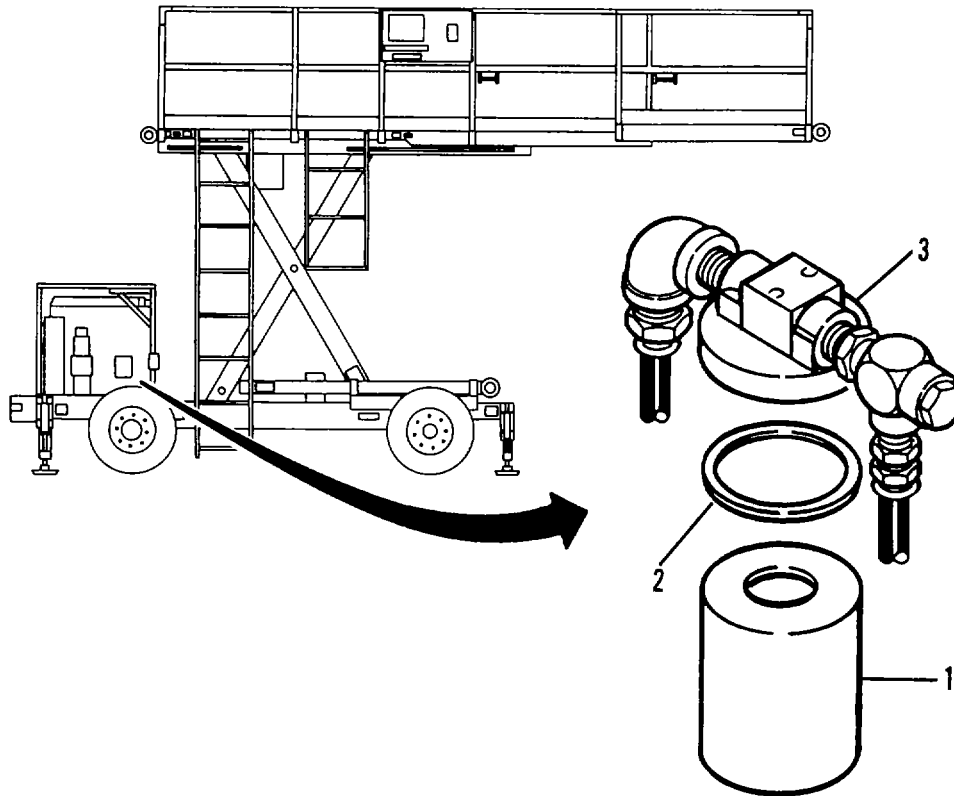
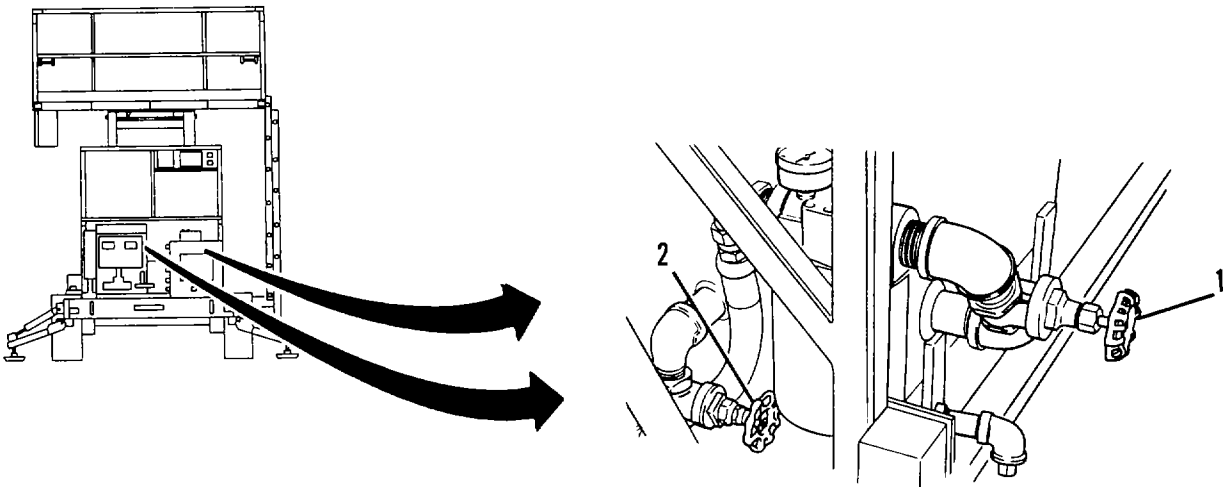

Figure 3-31. Hydraulic System Filters.
Figure 3-31.1. Gate Valves.
Hydraulic fluid may be extremely hot. Allow the SPEMS to stand fifteen minutes before breaking into hydraulic system. Figure 3-31.1. Gate Valves.
- (1) Close (turn fully clockwise) the suction and return gate valves (1 and 2, Figure 3-31.1).
- (2) Place a drip pan under the filter.
- (3) Using strap wrench, unscrew filter element (1, Figure 3-31) and discard.
- (4) Remove gasket (2) from filter base (3) and discard.